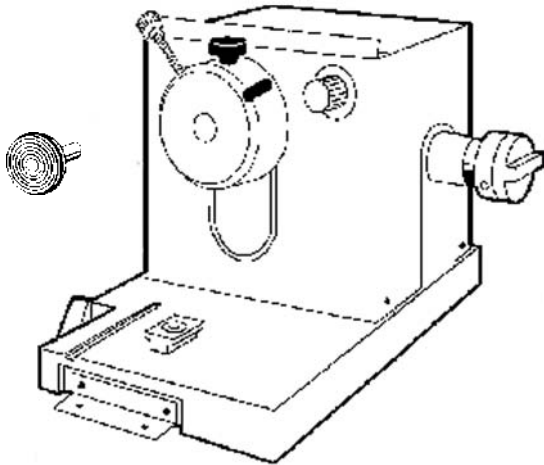

Fig. 18
- Activate the Peltier element (4) (option), if available - it may take up to 40 seconds until the maximum refrigeration output is available.
- Once the specimen is frozen, insert the specimen disc in the specimen head (Fig. 18) and start sectioning.
- Fix the support (1) of the heat extractor (2) by tightening the 2 screws to the threaded holes on the left sidewall of the cryochamber and insert the heat extractor.
- Once the specimen is frozen, place the heat extractor on the parking station (3).